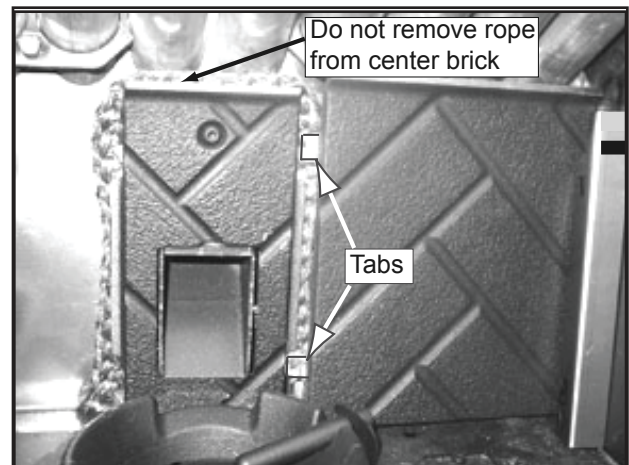

Figure 23.4
1. Place right brick in behind the right bracket and then slide to the left so the tabs are behind the center brick. **Figure 23.4.**